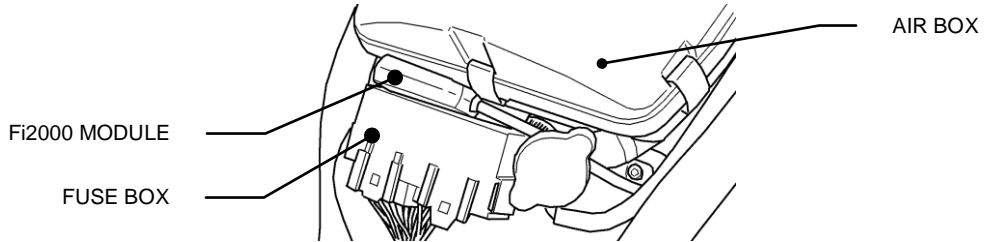
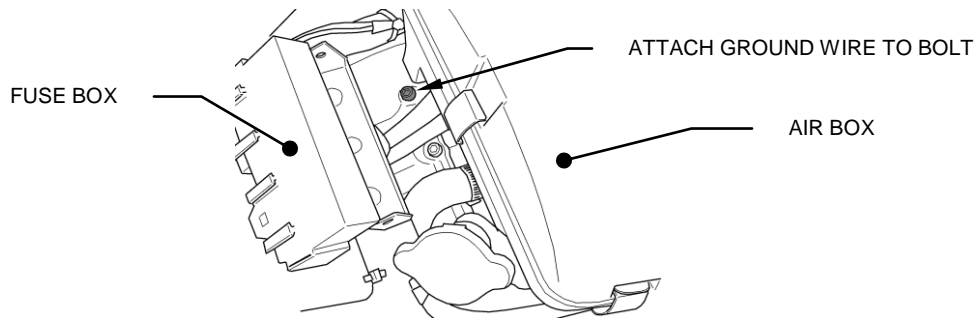

FIGURE 1
FIGURE 4
2. Lay the Fi2000 module in place, but do not attach it to the motorcycle, and run the wiring harness over the radiator cap neck and drop the wires down inside the right frame rail (see figure 1).
7. Raise the fuse box and attach the black wire to the bolt shown in figure 4. Reinstall fuse box.
8. Before re-installing the gas tank cover, verify your connections. Remove the door from the Fi2000 box to expose the LED's. Verify the wire connections by (1) turning the ignition on, prior to starting, and see if all three LED's are on steady. If you have no light, your ground connection (BLACK wire) has not made proper contact or your front injector connection is not complete. (2) After achieving a steady light from all three LED's, start the motorcycle, wait 15 seconds and let it idle, the green light should now be the only LED on. If all three LED's are still on after start up, verify you have attached the injector connectors correctly. Reattach the door when finished. **Note:** Make sure the ignition is turned off before changing any connection.
9. Remove the backing from the Velcro and attach the Fi2000 to the air box base as shown in fig 1.